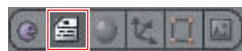

Figure 3.73
- By now you've probably seen several ways that Python scripts, commands, and definitions can be used in Blender. In this case, the method used is the Scriptlinks method. When you use script links, a Python script can be set to execute at certain points in an animation. The Scriptlinks Buttons area can be accessed by clicking the icon shown in Figure 3.73. On the Scriptlinks tab, click Enable